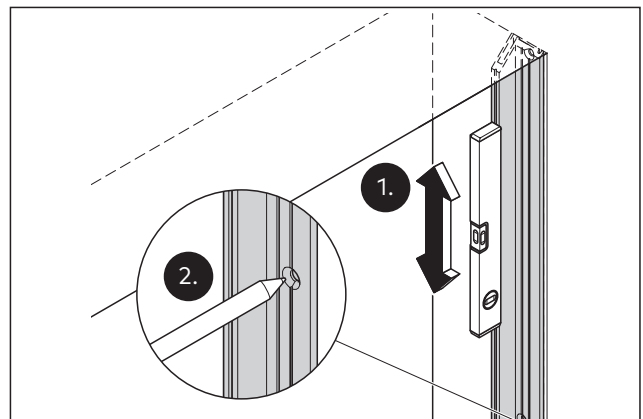

Fig. 25 Mark all of the door frame adapter's drill holes on the ground
1. Align the door frame adapter vertically in the passage according to the approval drawing (Fig. 25).